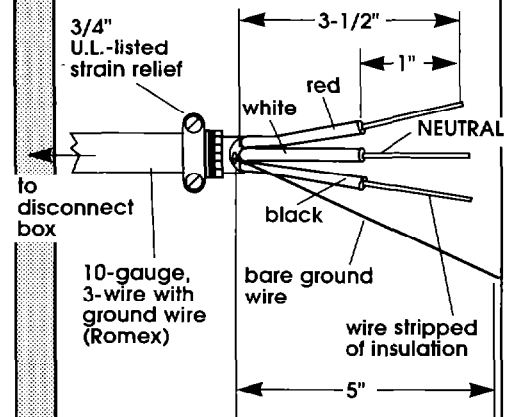

Figure 9
2. Strip 5 inches of outer covering from end of cable. Cut 1-1/2 inches off of the three insulated wires. Strip 1 inch of insulation from the end of each insulated wire (see Figure 9).